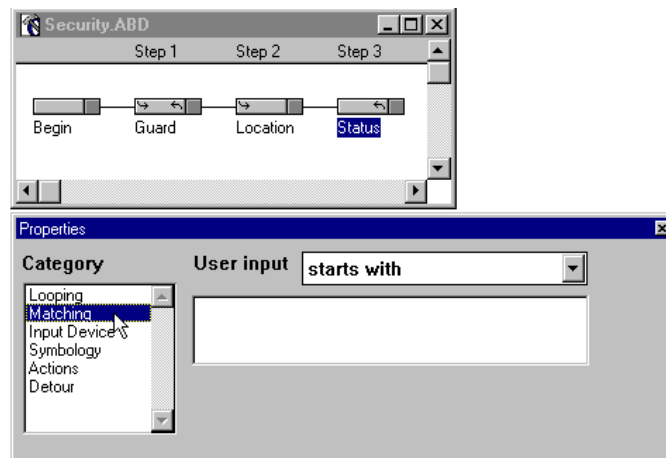

Figure 3-48 “Status” Handler - Matching Property
42. Select **Matching** from the **Properties** window (Figure 3-48).